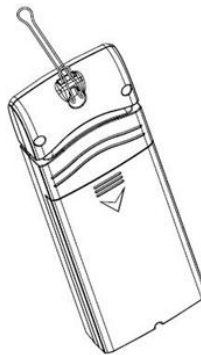

Figure 11
2. Hang the remote sensor up on string, as shown in Figure 11.